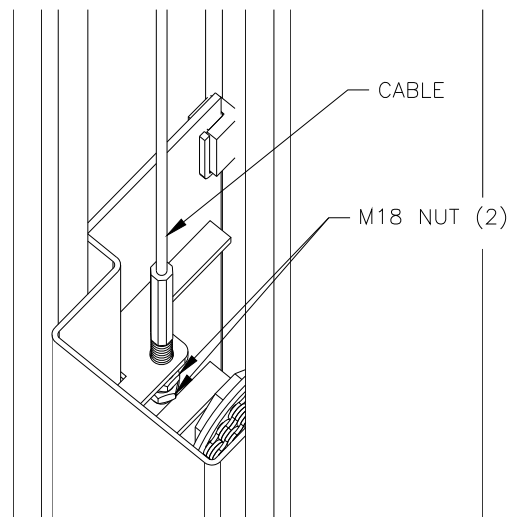

**Fig 7-Upper Sheave**
- 19) Remove the cable trapping bolt assembly, **Fig 7**, on the top sheave. Route the cable up through the carriage and over the sheave. Reinstall the cable trapping bolt assembly once cable is routed properly.